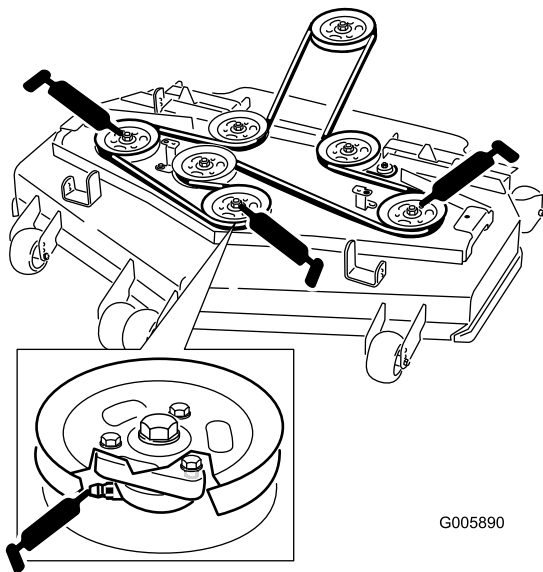

Figure 28
4. Grease the three spindle bearings under the pulleys until grease comes out the lower seals (Figure 28).
5. Grease the fittings on the push arms (Figure 28).